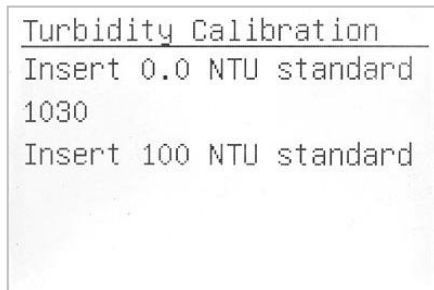

Figure 15 Turbidity Calibration
4. Press the **TCal** button on the turbidity result page to launch the calibration (Figure 15). Press the OK key to measure the deionized water